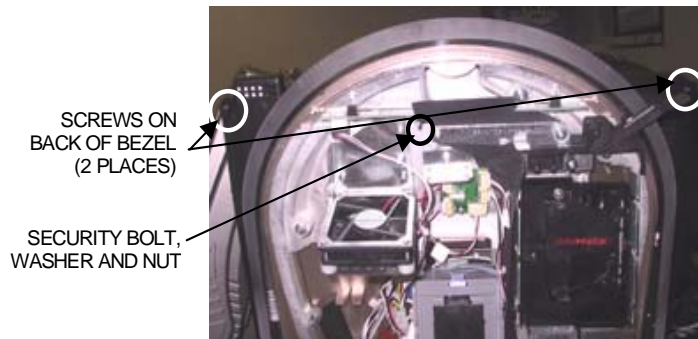

FIGURE 3 - SCREWS ON FRONT AND BACK OF BEZEL
5. Place something in front of the game to brace the bezel once the strain relief cord is undone, then remove the screw at the center of the marquee bezel and the 2 screws on the back of the bezel. Remove the nut and washer securing the security bolt inside the CPU section (see Figure 3).